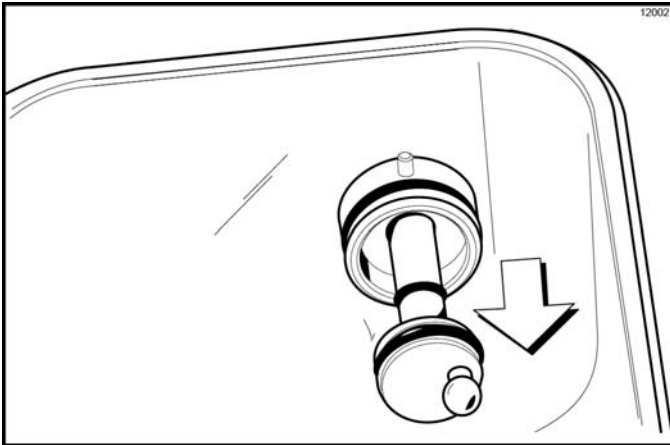

Figure 6-122
- Remove the pump driveshaft from the drive hub in the rear wall of the mix hopper. (See Figure 6-122.)